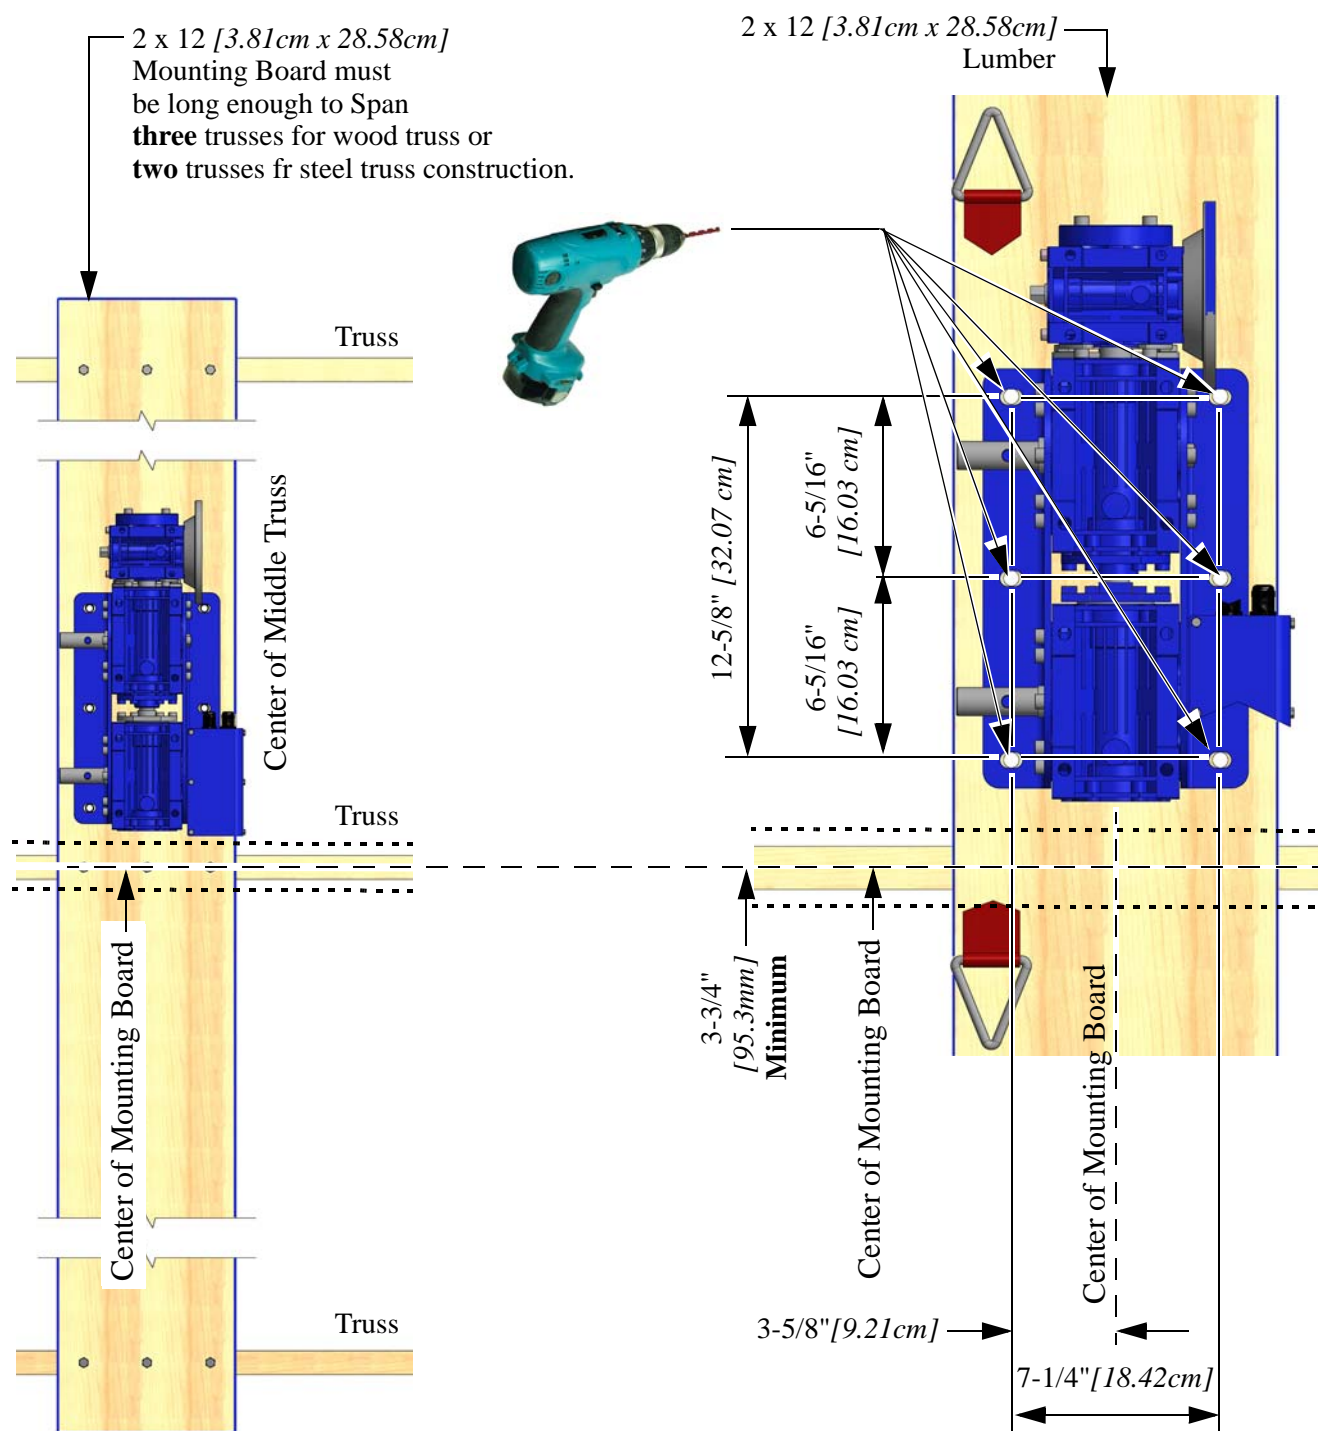

Figure 3. Drilling Holes for Mounting
1. Cut a 2 x 12 Board long enough to span **three** trusses when mounting to wood Trusses (See Figure 3.).